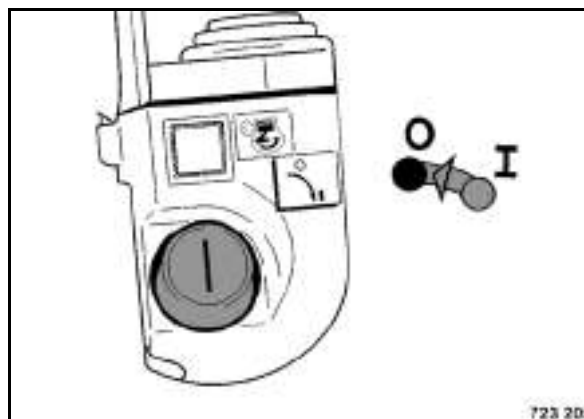

Fig. 86
- Turn the ignition switch to position I (Fig. 86), charge control lamp and oil pressure control lamp come on.